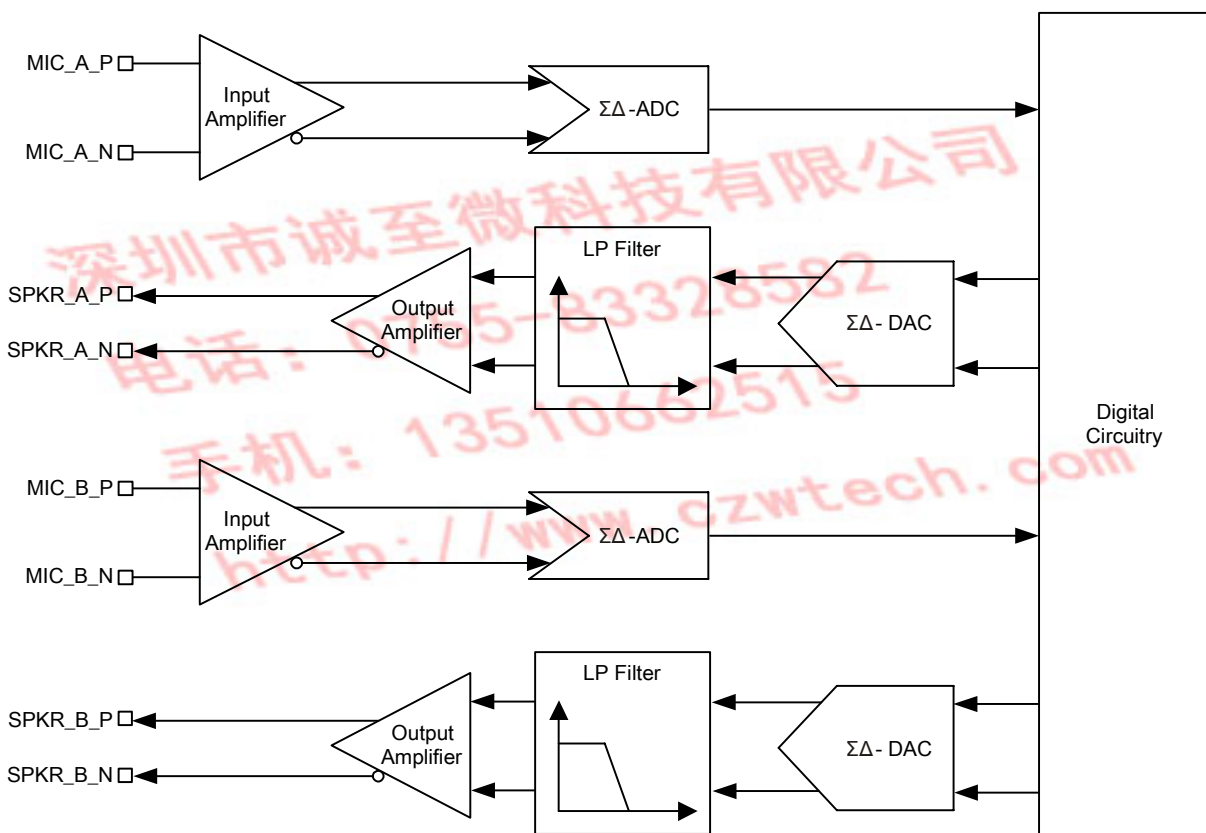

Figure 10.2: Stereo CODEC Audio Input and Output Stages
- Two second-order Sigma Delta converters allowing two separate channels that are identical in functionality, as shown in Figure 10.2.